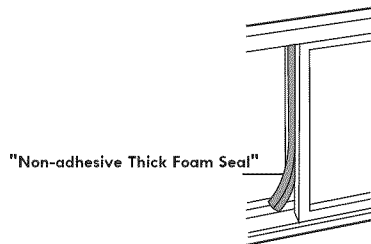

Fig.15
4. Cut the non-adhesive thick foam seal to window height and insert into the open gap between the inner window and outer window sash (see Fig. 15).